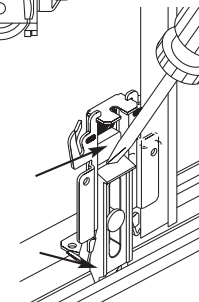

FIGURE 8
After obtaining approximately 1/2" clearance at floor, press nylon button guide down with thumb or screwdriver at (B) until hooks (C) snap into floor track. Guide will ride up and down in channel to compensate for uneven floor level, without disengaging door. Guide can be removed by prying up under nylon flange (Figure 8).